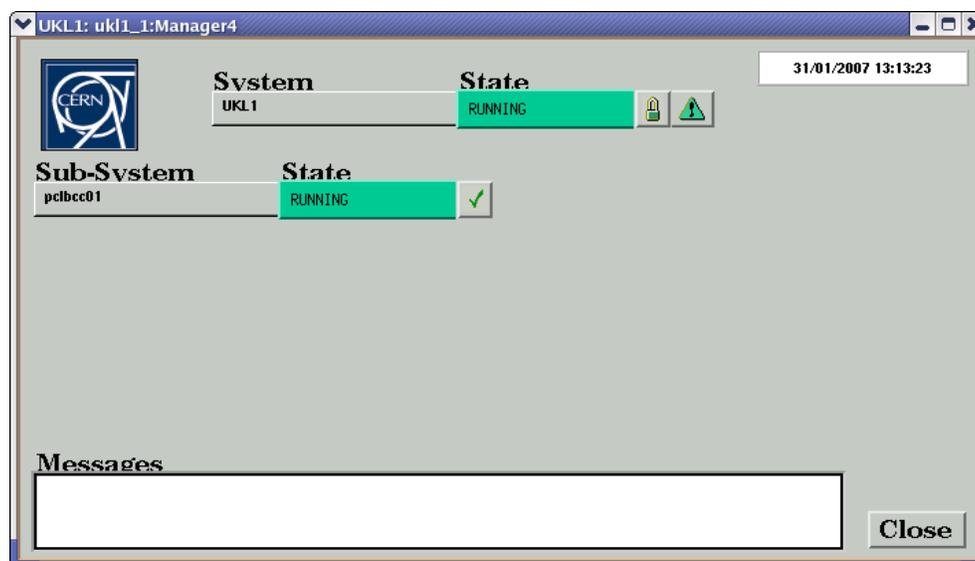

Figure 3: FSM panel for configuration of all the L1 boards in a system
Once this has been done the state machine top level panel will be started, which can be seen in Figure 3. It is from here that the L1 boards can be configured on mass from predefined settings. The panel shows the CU name and its state under the ‘System’ heading and the available L1 boards and their states under the Sub-system heading. Configuration of all the present L1 boards from this interface is relatively straight forward and the following steps should be followed:
1. Take control of the system. Initially all state markers will be greyed out and the pad lock on the right of the system state will be unlocked. Click on this and then select the ‘take’ option. The panel should then look as it does in Figure 3.